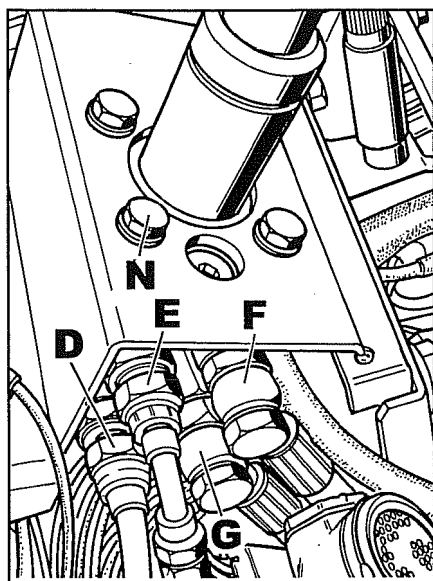

Fig. 60
2. Mark and disconnect hoses **D-E-F-G** Fig. 60. Remove screws **N** to detach the steering column for the power steering plant underneath.